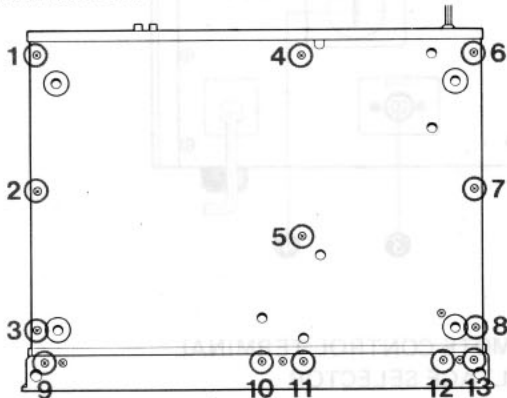
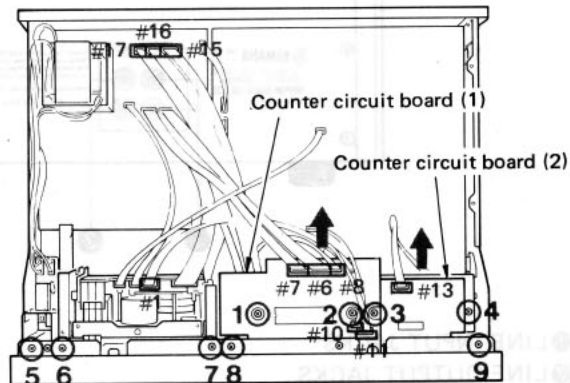
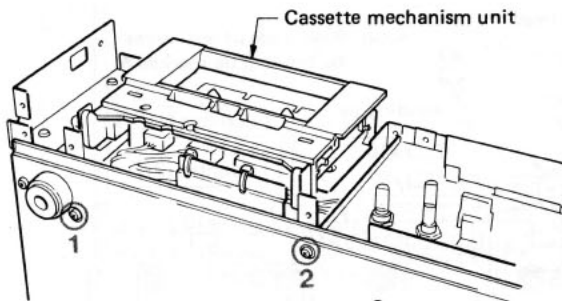

Fig. 2
Fig. 3
Fig. 4
Remove screws ① through ⑧ in fig. 2 and then remove the bottom cover.
- c. Remove screws ① and ② in fig. 3 and pull out the counter circuit board (1) backward gently (connected to the front panel by connectors.)
- d. Remove screws ③ and ④ in fig. 3 and pull out the counter circuit board (2) backward gently (connected to the front panel as well as counter circuit board (1).)
- f. Remove screws ⑨ through ⑬ in fig. 2 and screws ⑤ through ⑨ (yellow screws only) in fig. 3, and then pull out the panel forward gently.
- Remove screws ① and ⑫ in Fig. 2 and screws ⑥ and ⑦ in Fig. 3 and screws ① and ② in Fig. 4, and then pull out the cassette mechanism unit backward gently.